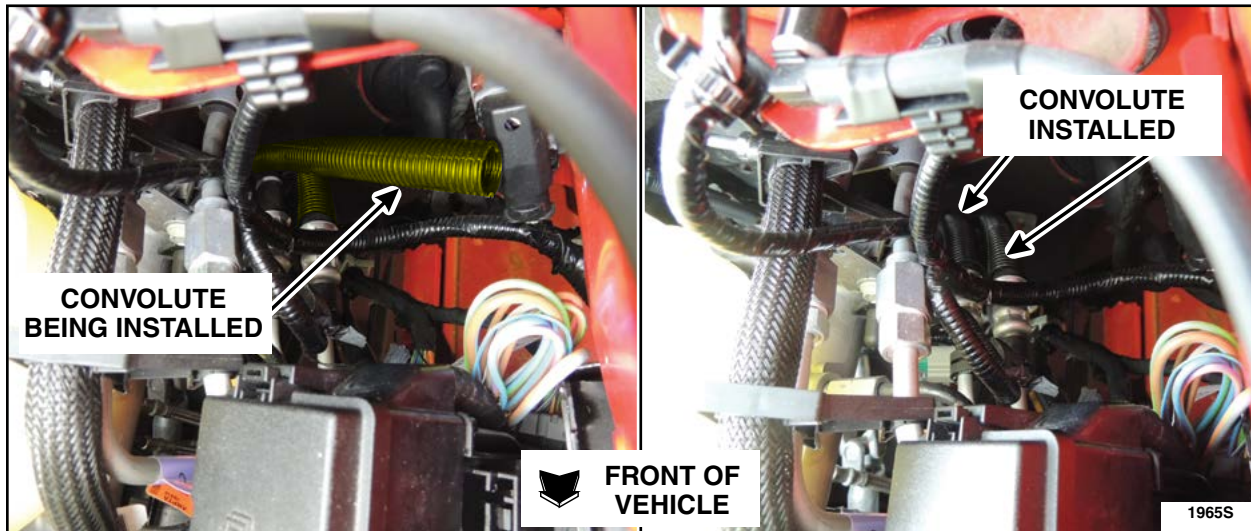

FIGURE 20
14. Install the convolute to the upper power steering pump to Hydro-Boost and Hydro-Boost to steering gear pressure hoses. See Figure 20.